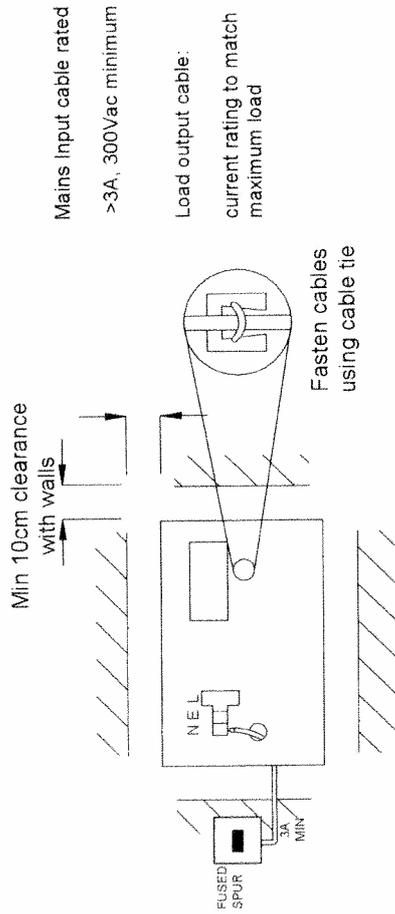

Fig 1.0 Mounting of Power Supply
- Mount securely allowing for minimum clearance - see Fig. 1.0.